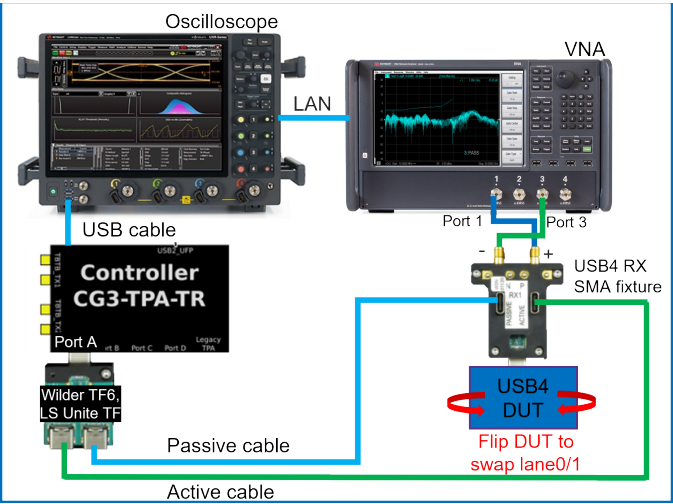

Figure 212 Tx Return loss test setup with Rx SMA test fixture
- 1 For the physical connections between the DUT & the Oscilloscope, see the connection diagrams in Figure 212 and Figure 213.